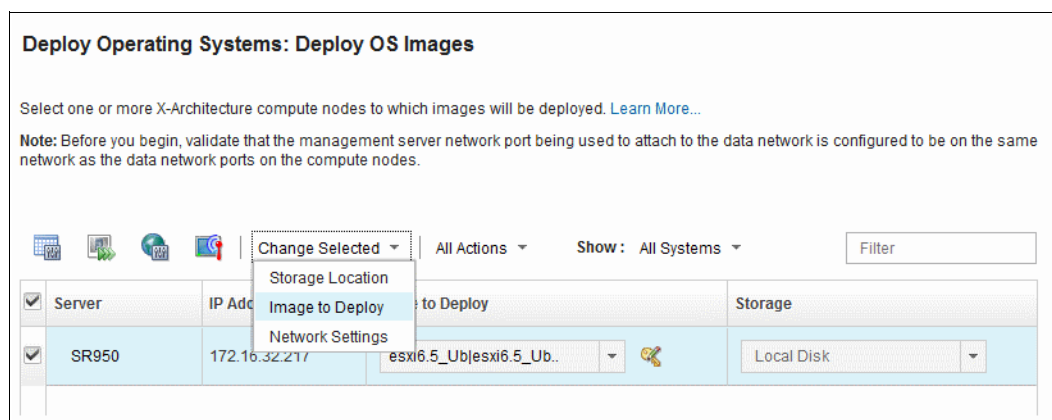

Figure 6-22 Change OS if required
4. If you must change the OS image, select **Change Selected** → **Image to deploy**, as shown in Figure 6-22.